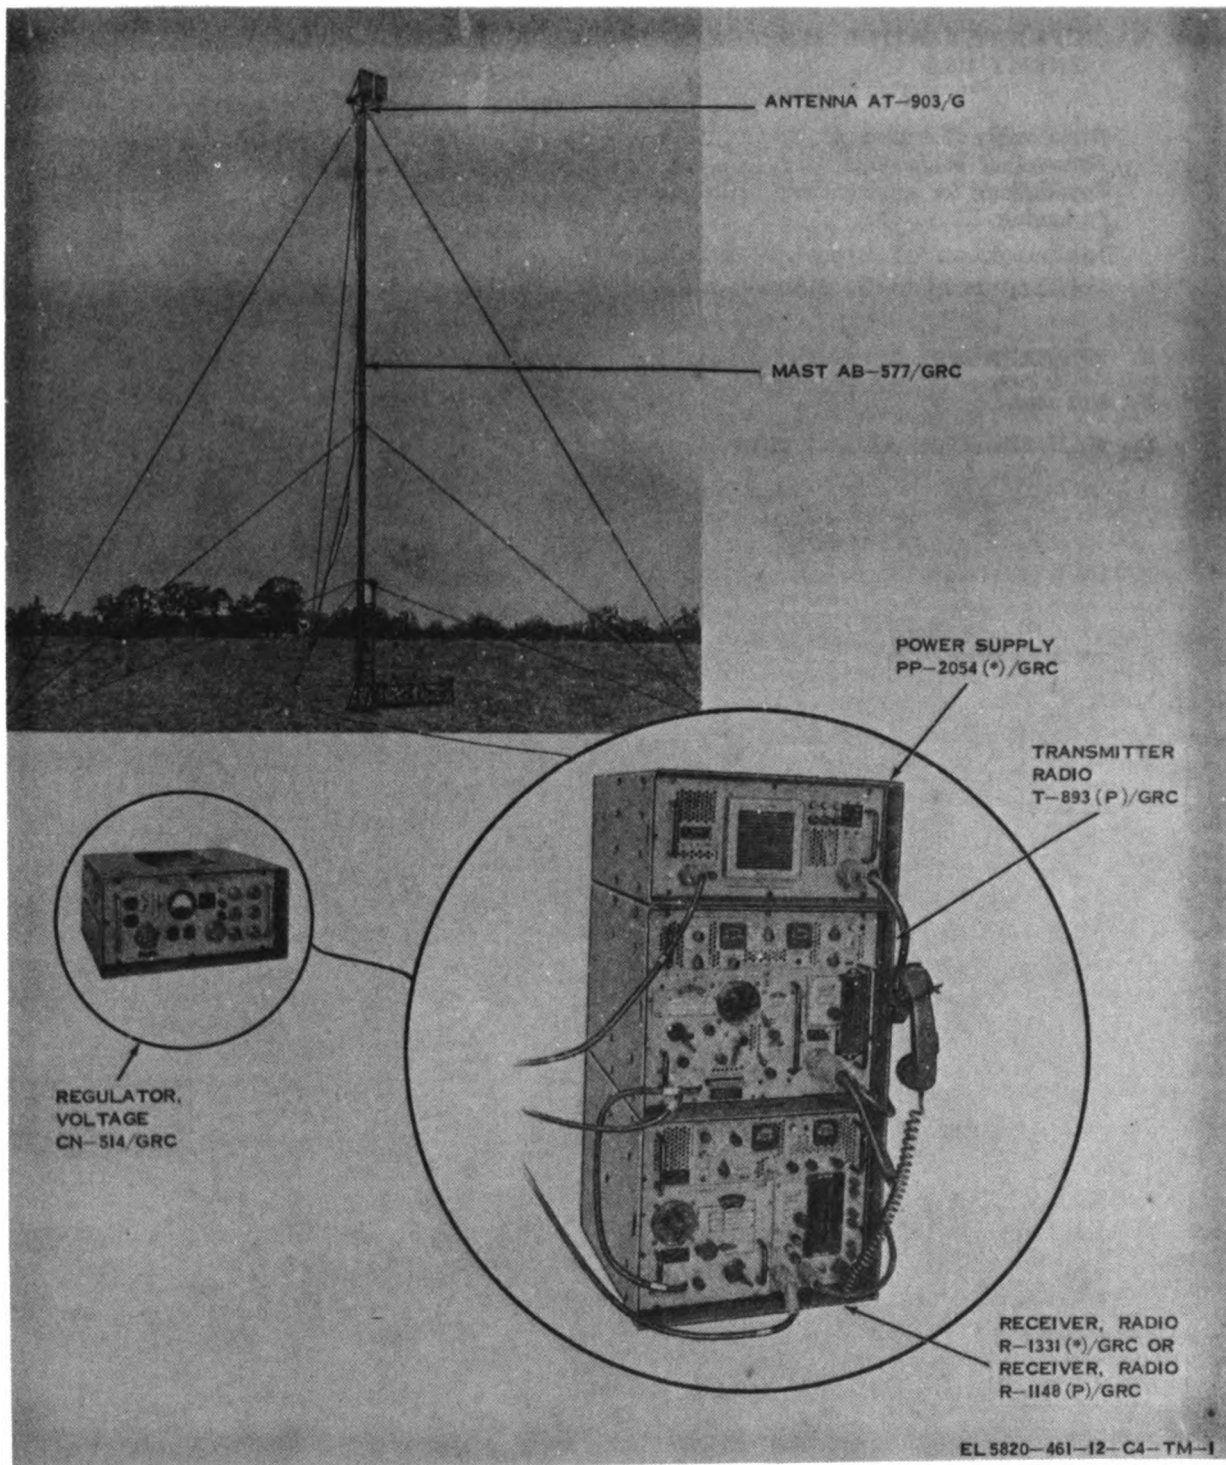

Figure 1-1. Radio Set AN/GRC-50(*)(V) in operation.
b. Installation and maintenance of Mast AB-577/GRC (figs. 1-1 and 1-8) are provided in TM 11-5820-538-12 which also includes information on the use of Extension Kit MK-806/GRC which is used to extend the height of the antenna to another 25 feet above the 50-foot height of the AB-577/GRC.
(1) Radio Set AN/GRC-50(*) (V) applies to all configurations of the radio set: AN/GRC-50(V)1, 2, 3, 4, and 5 and AN/GRC-50A(V)1, 2, 3, 4, 5, 6, 7, 8, 9, 10, and 11.
(2) Amplifier-Converter AM-1955(*)/GRC applies to Amplifier-Converters AM-1955/GRC, AM-1955A/GRC, and AM-1955B/GRC (para 1-14d).
(3) Amplifier-Converter AM-1956(*)/GRC applies to Amplifier-Converters AM-1956/GRC, AM-1956A/GRC, and AM-1956B/GRC (para 1-14d).
(4) Amplifier-Oscillator AM-1958(*)/GRC applies to Amplifier-Oscillators AM-1958/GRC and AM-1958A/GRC (para 1-14e).
e. Throughout this manual, the term *radio set* applies to all configurations of the AN/GRC-50(*) (V), unless otherwise specified.